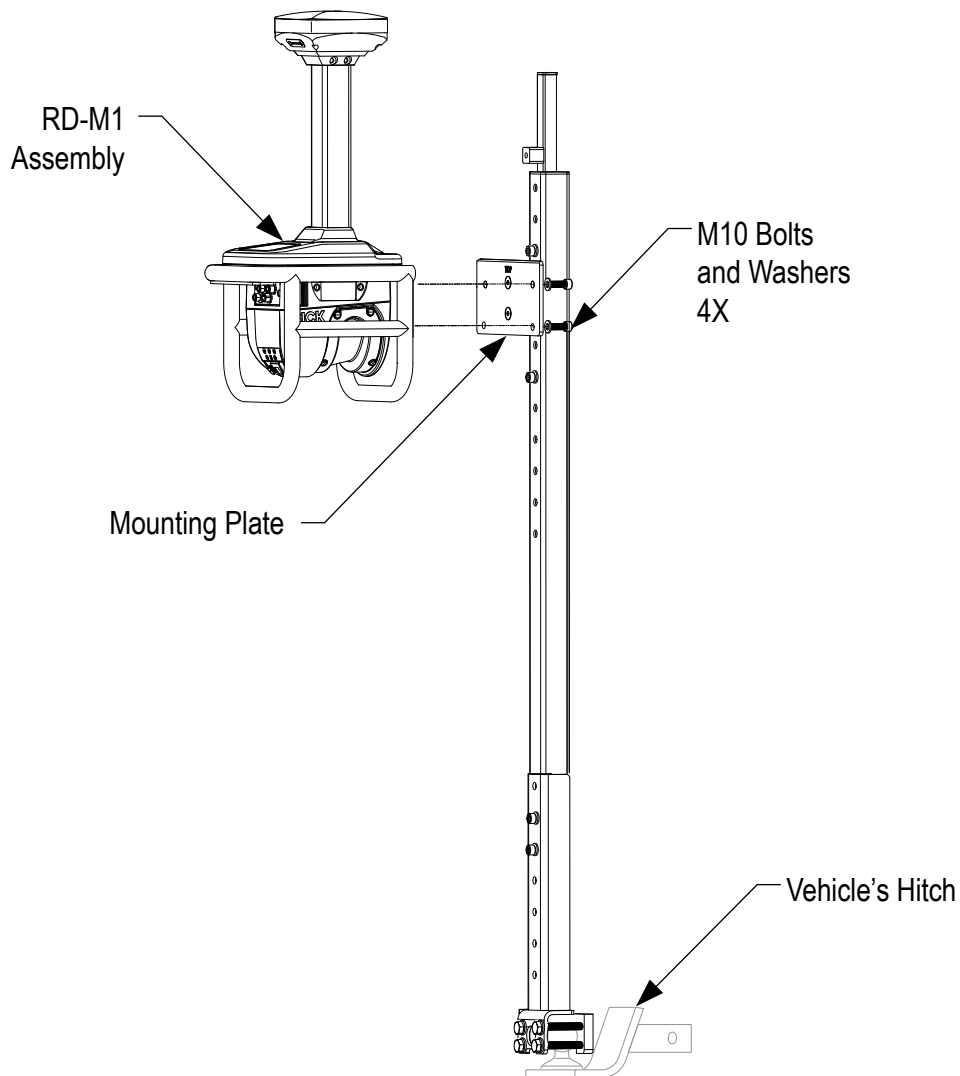

Figure 6: RD-M1 Installation
5. Install the RD-M1 onto the mounting plate with M10 bolts (1006411-01 4 ea) and M10 washers (1006415-01 4 ea). See Figure 6.